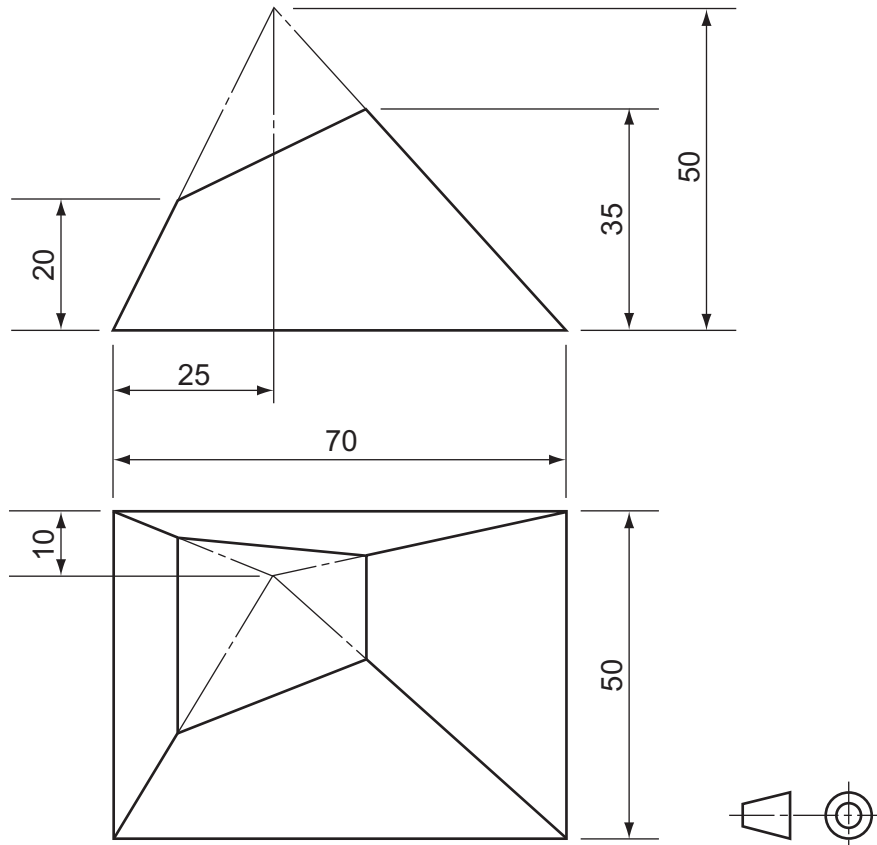

Fig. 7
- 7 Fig. 7 shows, in first angle projection, two views of a truncated pyramid open at the top and bottom, made out of thin metal.